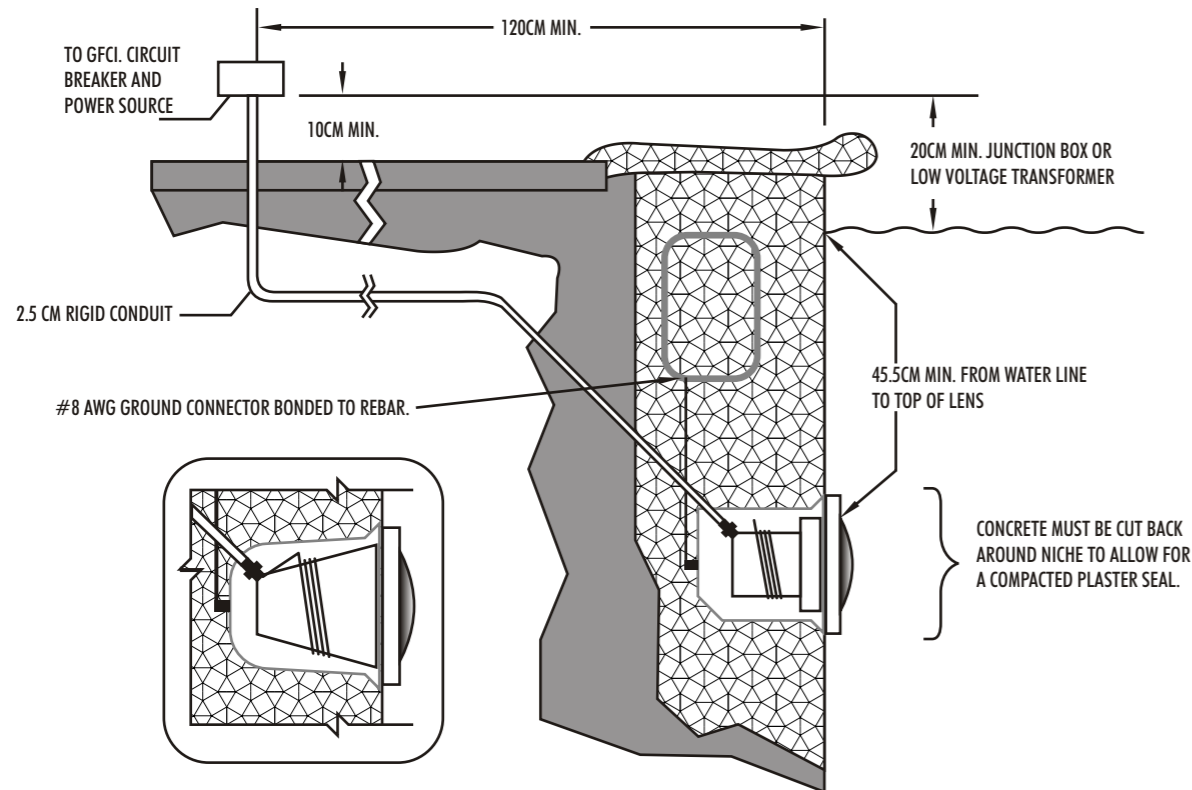

Figure 1.
A. The electrician must complete preparatory steps before light fixture is installed; see Figure 1.
- The Junction Box (or, for 12 volt models, the low voltage transformer) must be located at least 20CM above water level, at least 10CM above ground level, and at least 120CM from the edge of the pool; see Figure 1.
- The wet niche must be properly installed so that the top edge of the underwater light's lens is at least 45.5 below the surface of the water in the pool; see Figure 1.
- The wet niche must be properly electrically bonded and grounded via the No.8 AWG ground connector located at the rear of the niche; see Figure 1.
1. Feed cord through conduit to Junction Box, leaving at least 120CM of cord at the light fixture to coil around the light; see Figure 1. This 120CM of cord around the light allows the light to be serviced after the pool is filled with water.
- Strip 15CM of the outer cord jacket to expose the three insulated wires. Be careful not to damage the insulation on the three (3) inner wires.
- Connect all three (3) wires to the corresponding circuit wires in the Junction Box, and secure the Junction Box cover in place.